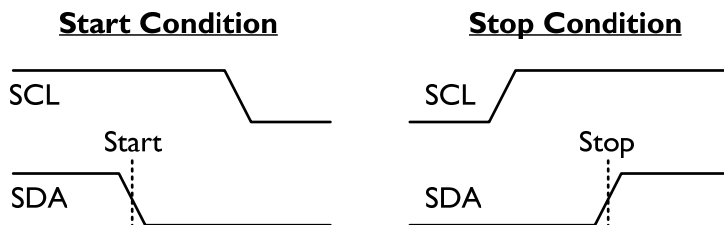

Fig. 9: I2C bus start and stop conditions.
Each transmission is initiated when the master sends a ‘0’ start bit (S), and the transmission is terminated when the master sends a ‘1’ stop bit (P). **These bits are exclusively transmitted while the SCL line is high.** The waveforms corresponding to these conditions are illustrated in Fig. 9.
Once the start condition has been sent, the SCL line is toggled at the prescribed data-rate, clocking subsequent data transfers. Data on the SDA line is always sampled on the rising edge of the SCL line and must remain stable while SCL is high to prevent false Start or Stop conditions (see Fig. 9).